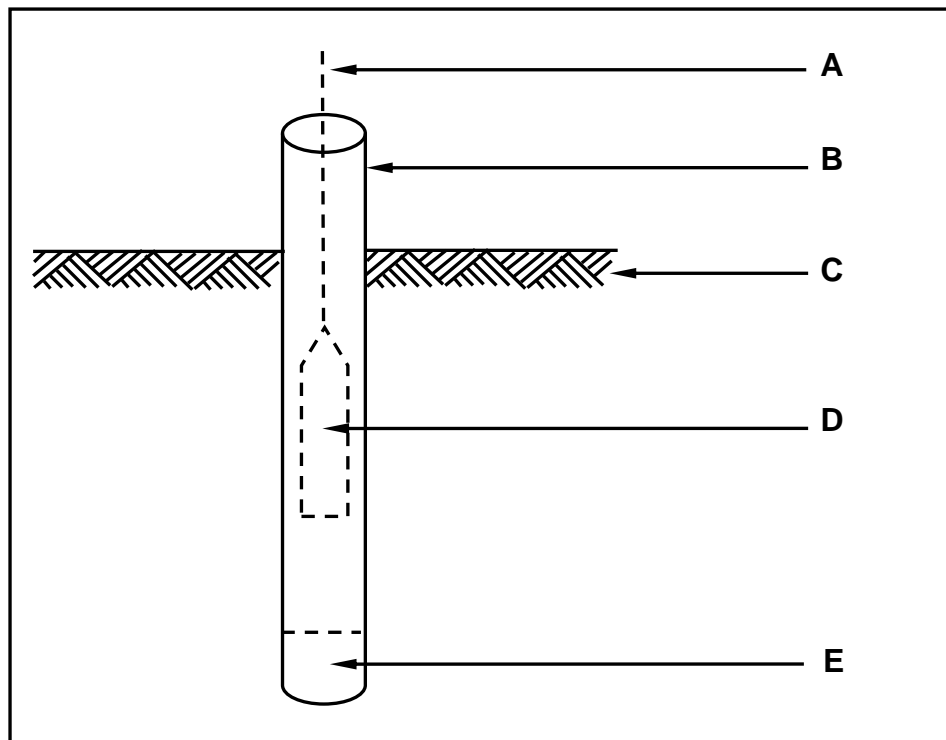

FIGURE 6.2
6.2 FIGURE 6.2 below shows a driven in-situ pile being installed.
- 6.2.6 Name ONE other type of pile that can be used instead of the one in FIGURE 6.2. (1)